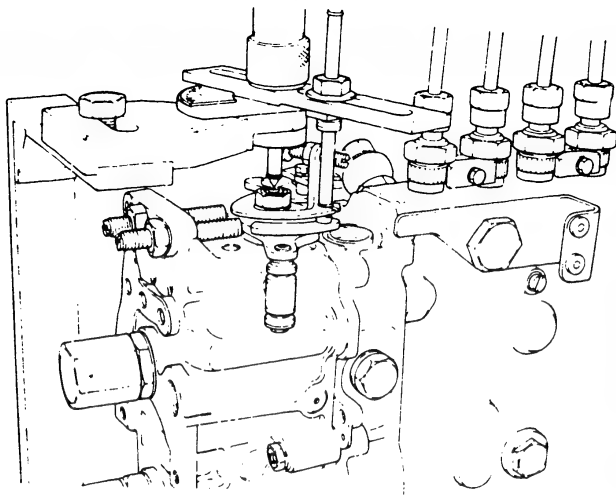

Fig. 149 Temporarily setting the control lever
1. With the pump speed maintained at N_f rpm, temporarily set the control lever at the position where the lever contacts the maximum-speed setting bolt (175). (Fig. 149)